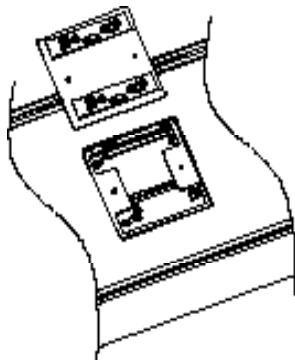

FIGURE 1
2. Turn fixture upside down and remove the two screws on the LED panel. Pull disconnects from panel (FIG. 1).